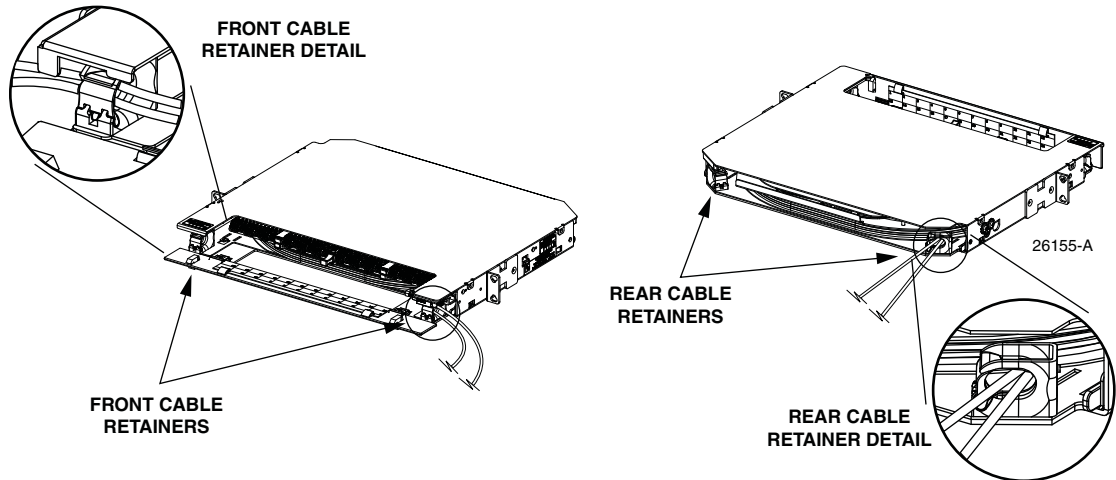

Figure 25. Placing Microcables Within Cable Retainer
9. After unwinding the microcable, ensure that the microcable is still within the cable retainer at the point where the microcable exits the panel as shown in Figure 25.